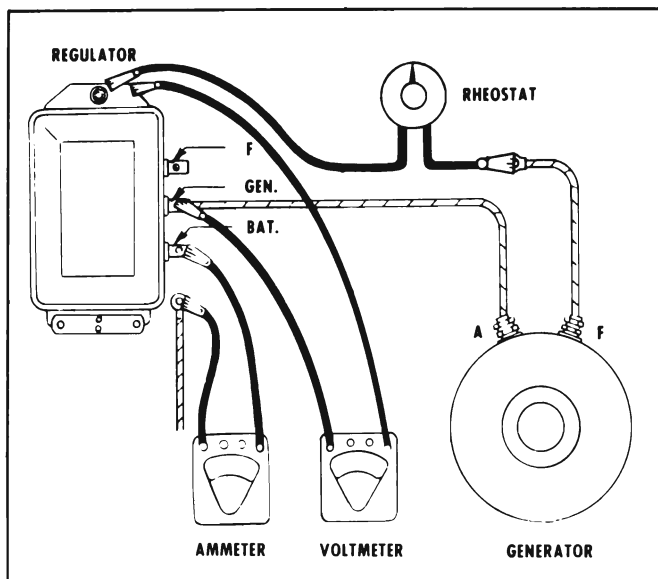

Figure 10-18—Testing Cutout Relay
2. Connect a variable resistance into field circuit at "F" terminal and turn control knob to position for most resistance (open circuit). See Figure 10-18.